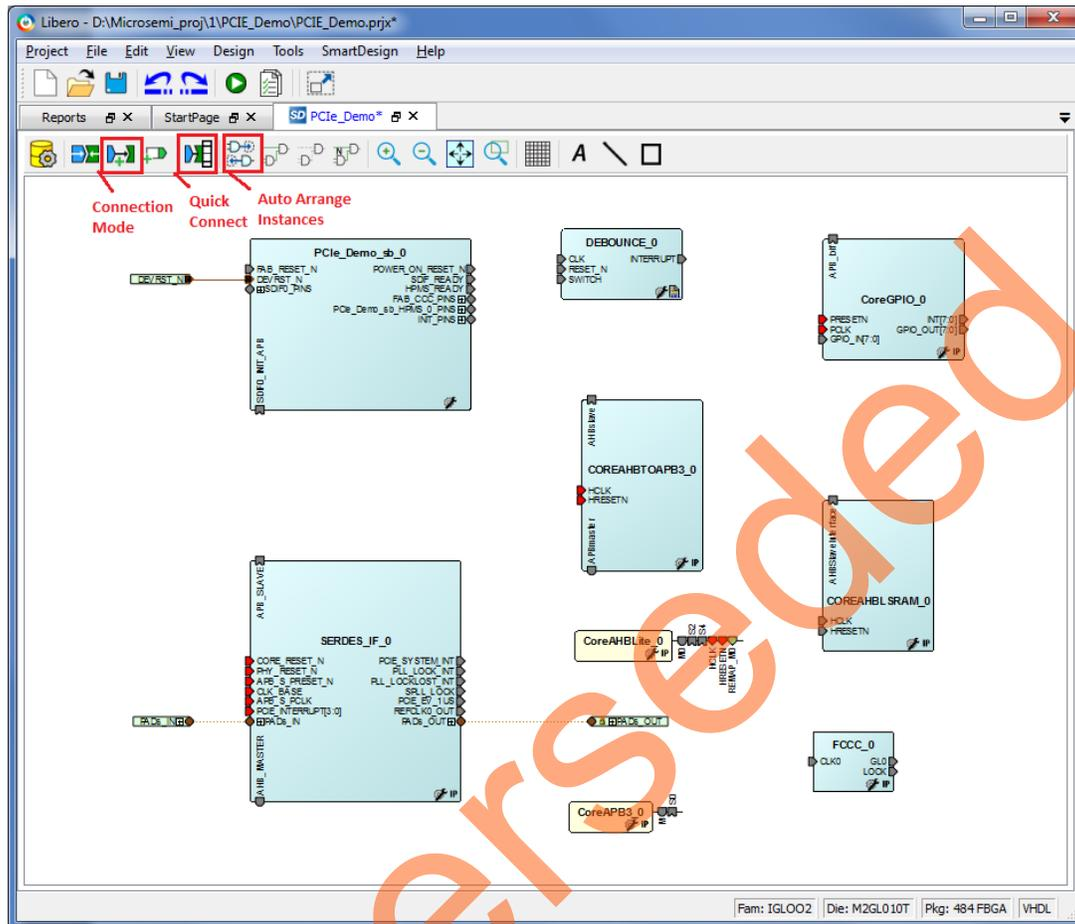

Figure 28 • PCIe_Demo_top in SmartDesign
Figure 28 shows PCIe_Demo_top in SmartDesign after configuring all components.
- The first method is by using the **Connection Mode** option. To use this method, change the SmartDesign to connection mode by clicking **Connection Mode** on the SmartDesign window, as shown in Figure 28. The cursor changes from the normal arrow shape to the connection mode icon shape. To make a connection in this mode, click on the first pin and drag-drop to the second pin that you want to connect.
- The third method is by using the **Quick Connect** option. To use this method, change the SmartDesign to quick connect mode by clicking on **Quick Connect** mode on the SmartDesign window, as shown in Figure 28. Quick connect window will be opened.